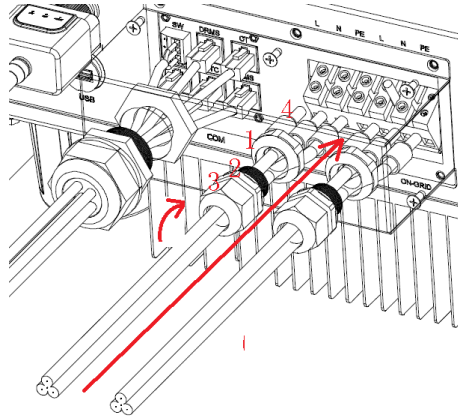

Fig. 6.3.2.1
- ① According to the wire diameter in Table 6.2, select the L (red/brown), N (black/blue) and PE(yellow-green) cables with appropriate wire diameter, strip off 5 mm insulation layer and route the cables through the waterproof cover and waterproof terminal as shown in Fig. 6.3.2.1.
- ② Fix the waterproof terminal on the waterproof cover. In Fig. 6.3.2.1, route 2 through the waterproof cover and tighten 1.